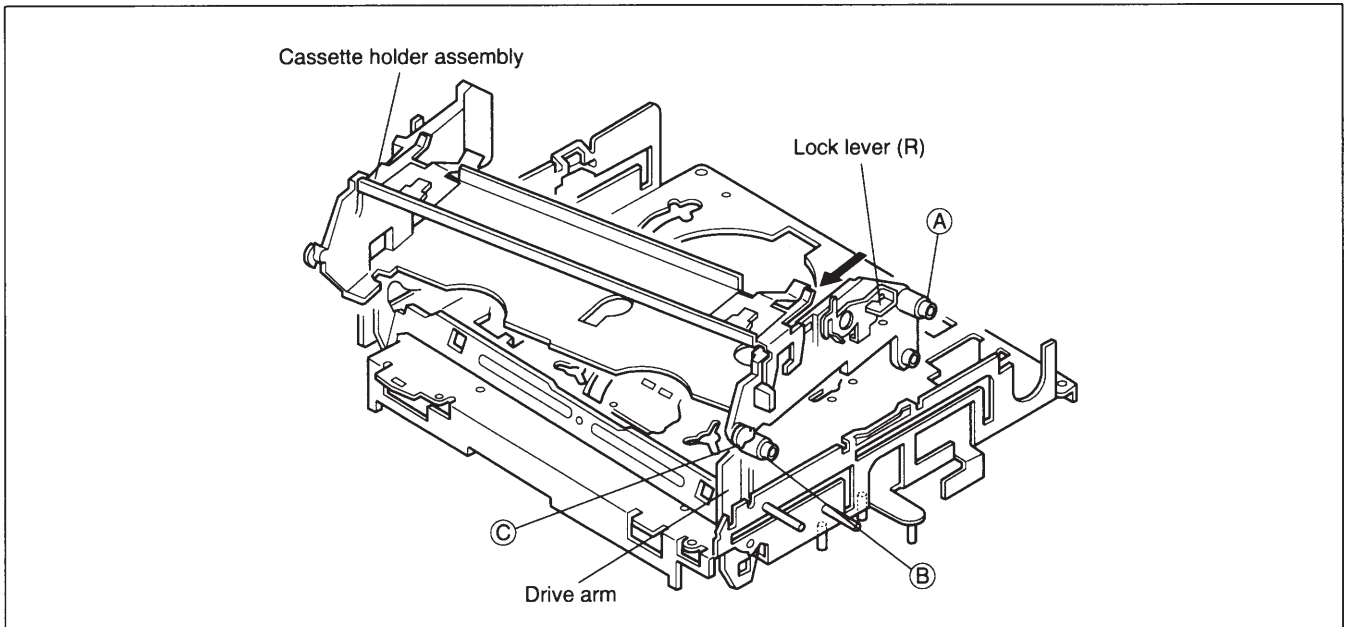

Fig. 2-2-7
- (1) Hold the drive arm upright and fit the leg ③ on the right side of the cassette holder assembly into the groove. (See Fig.2-2-7)
- (2) While swinging the lock lever (R) of the cassette holder assembly toward front, put the legs ① and ② into the rail. (See Fig.2-2-7)